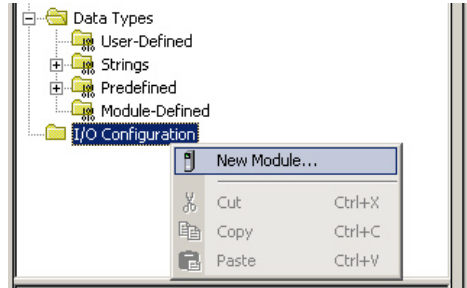

Figure 4.2 Defining a Bridge Module
- 1) Insert a bridge module into the I/O Configuration tree. As shown in figure 4.2 on the right, right click on the I/O Configuration folder and select “New Module...” in the pop-up menu.